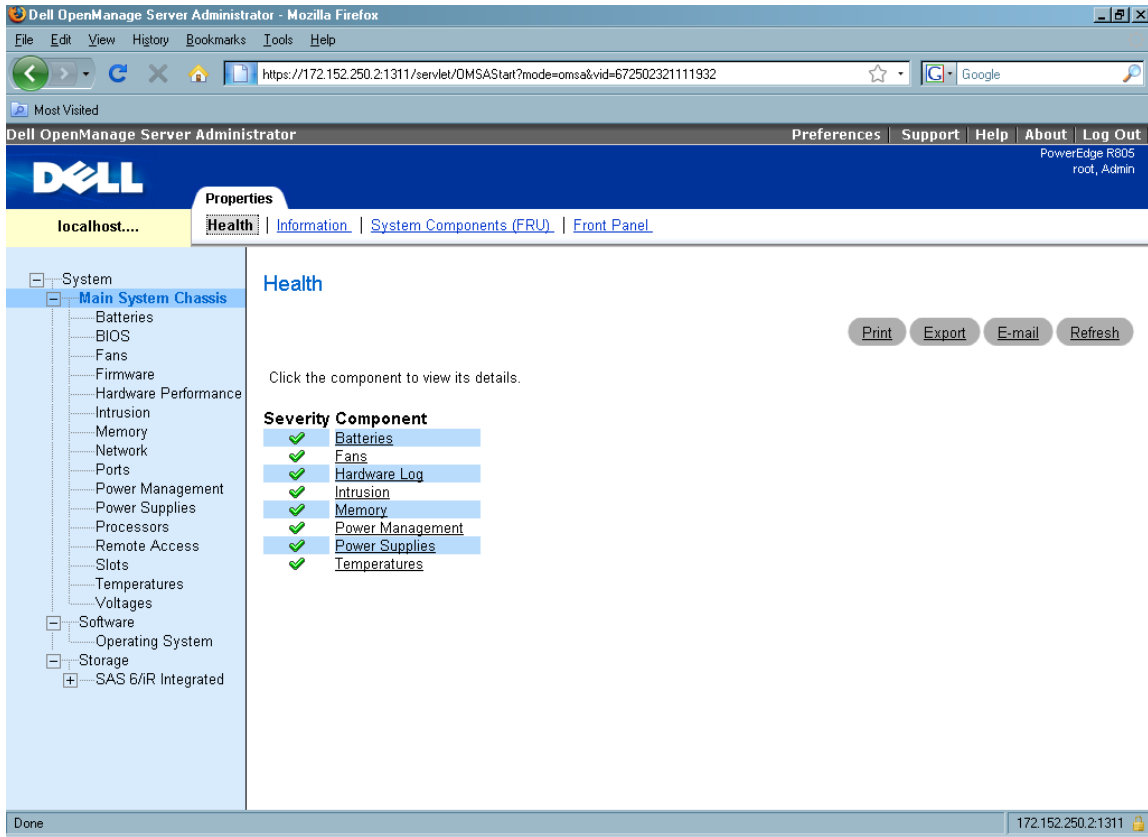

Figure 2: Health Tab
- Figure 2: Health Tab6
OMSA instrumentation services monitor hardware health. The user interface displays the global status of the main system chassis and the storage sub-system; it also provides the ability to drill down to faulty components. As shown in Figure 2, the user interface shows the health of individual server sub-components (batteries, fans, hardware logs, intrusion, memory, power management, power supplies, and temperature). You can also view storage sub-system health (controllers, batteries, physical disks, virtual disks, connectors, enclosures, enclosure sub-components, Enclosure Management Modules (EMMs), fans, power supplies, temperature sensors, and physical disks) and view details on each of the sub-components via a similar drill-down view.